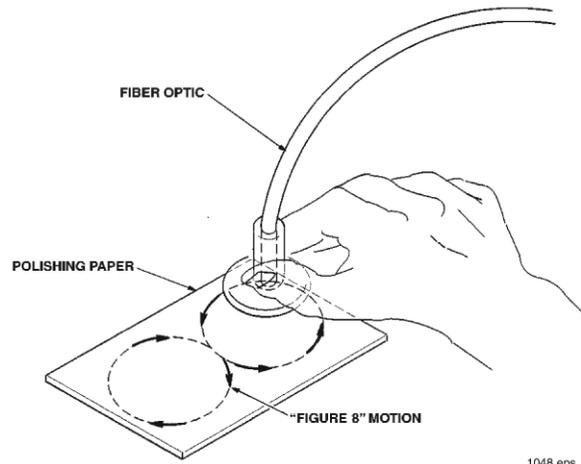

Figure 19. Fiber polishing showing the figure-8 pattern.
23. Polish the end of the fiber in a “figure 8” pattern as shown in Figure 19. Repeat the pattern while lightly pressing the tip of the fiber against the sandpaper. Use the polishing puck to hold the ferrule at a 90° angle (perpendicular) to the polishing surface to create the ideal polishing angle.